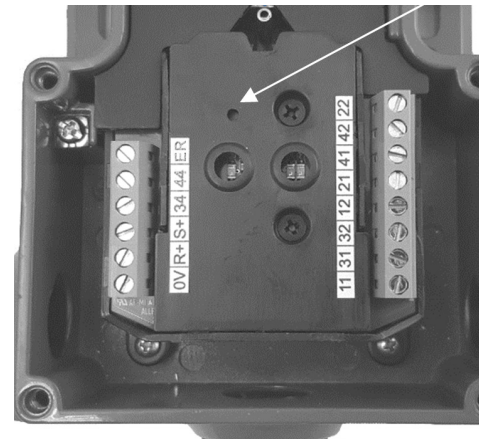

Figure 1. Switch cover removed.
If using INTERNAL RESET BUTTON (see Figure 1.)
- 3) Using a 2mm terminal screwdriver hold down the RESET button inside the switch housing and turn on the switch power (see Figure.1).